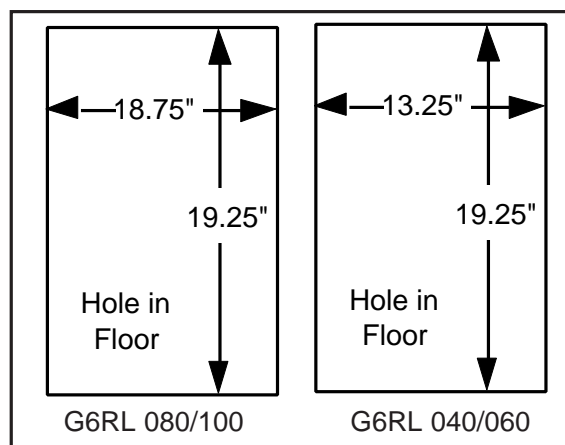

Figure 3. Opening for Concrete Slab
1. Construct a hole in the floor per the dimensions in Figure 3.